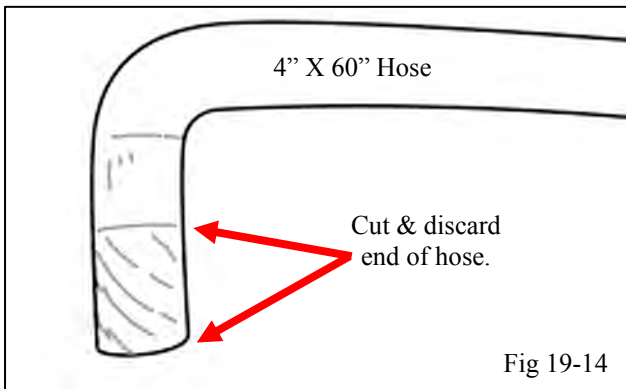

Fig 19-14
- (q) Take the 4" x 60" molded coolant hose (J3) and cut short 4" leg as shown in (Fig 19-14). Place the 18" length of 1" split wire loom on this hose so it starts approximately 12" from the short leg. Slide a wide band spring clamp (H3) approximately 2" on from the long end of this hose. Use the straight hose mender (H5) to secure it to the remaining piece of 3/4" hose from step 19n. Secure with the wide band spring clamps (H3). Slide the 36" length of split loom onto this hose assembly.